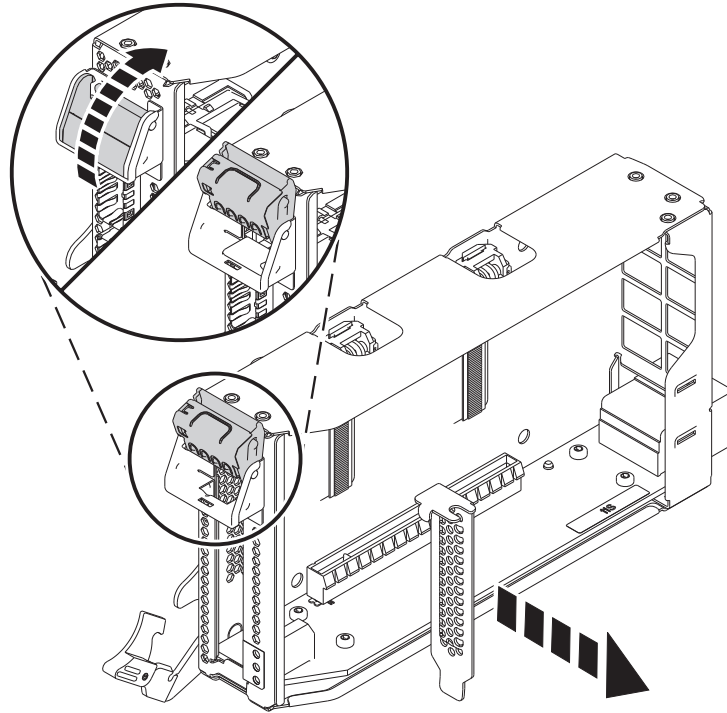

Figure 17. Removing the PCIe adapter filler from the adapter cassette
- c. To unlock the filler tailstock, rotate the latch that is located at the tailstock end of the cassette as shown in Figure 17 on page 17.
- d. Remove the filler tailstock from the cassette, as shown in Figure 17 on page 17.